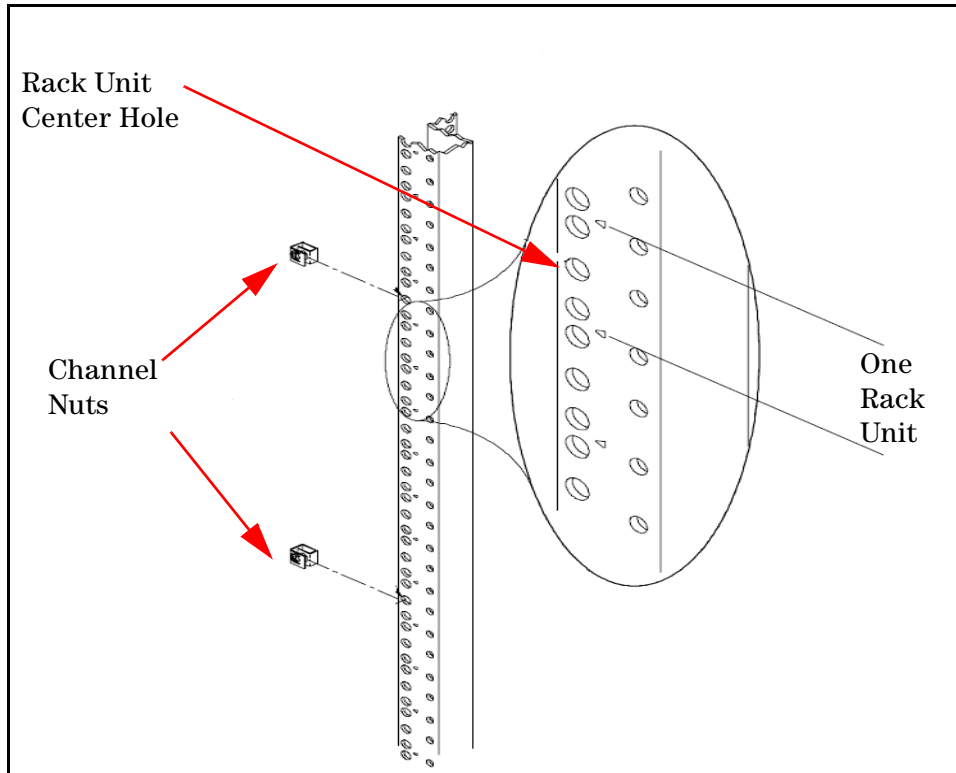

Figure 3 . Center Holes of EIA Rack, Attaching Channel Nuts
- Using the rack mount flanges as templates, position the flanges on the rack's vertical columns where the chassis is to be mounted. Align the adapter holes over the "center" holes of the EIA rack units. Slide channel nuts over the rack holes to be used by the rack mount flanges. See Figure 3.